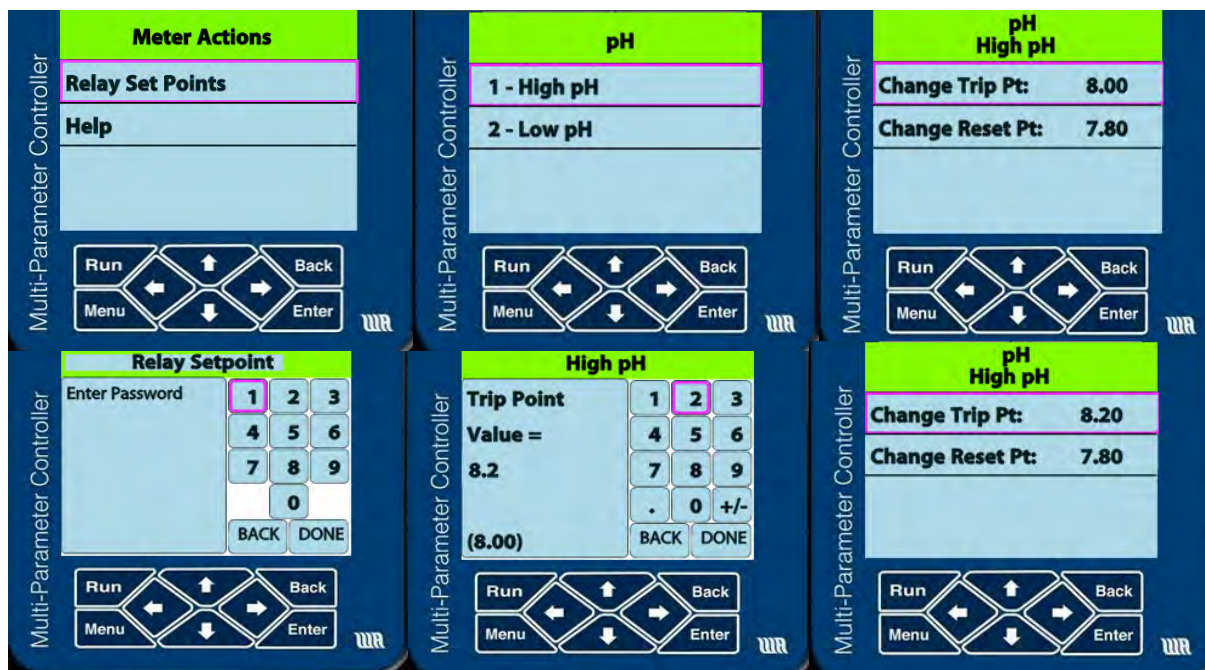

Figure 3-7 – The sequence of screens for changing relay set points from the front panel.
3. The next screen shows the relays that have been set. In Figure 3-7 they are “High pH” and “Low pH.” Select the relay you want to modify and click on **Enter**.